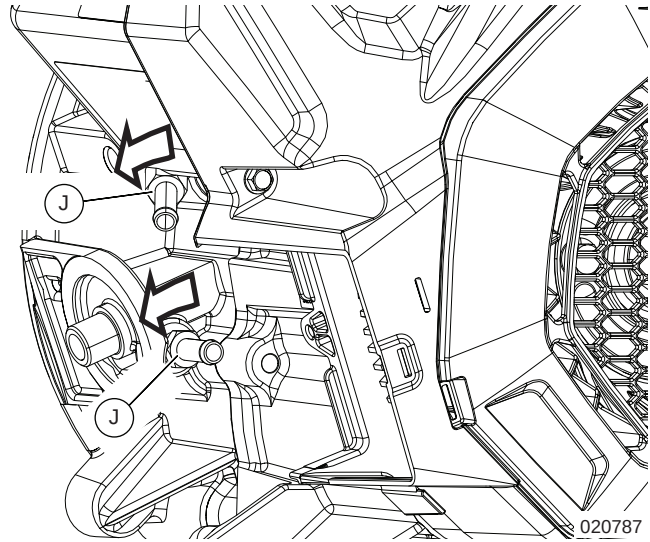

Figure 6-23. Remove Oil Cooler Barbed Fittings
6. See Figure 6-23. Remove oil cooler barbed fittings (J) from engine.